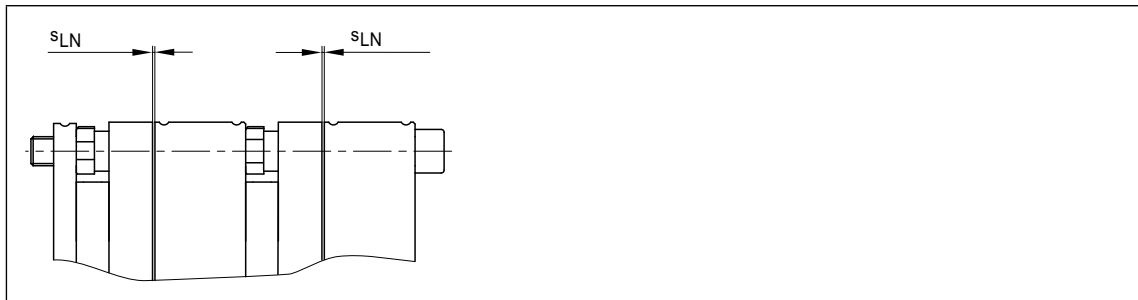

Fig. 11 Check the air gap
12. Check the air gap using a feeler gauge and correct it if necessary ( $s_{LN} = 0.4 + 0.05 \text{ mm}$ ) according to Figures 11 and 12.